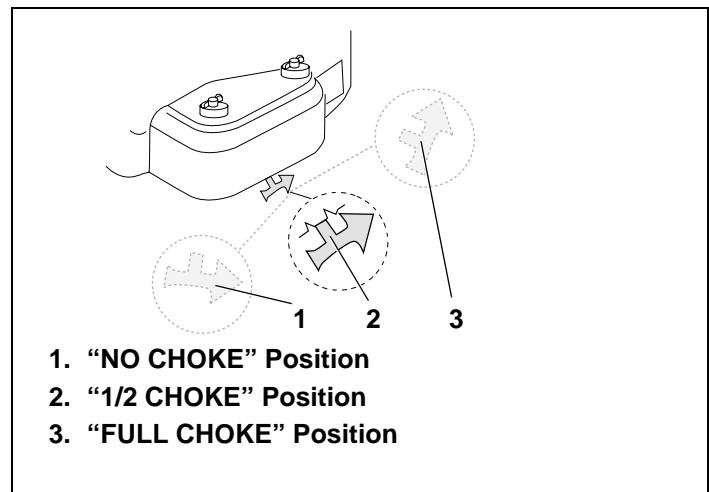

Figure 12. Engine Mounted Choke Lever
*Generator and Water Pump applications may have the independent choke lever mounted on the engine. See Figure 12.*